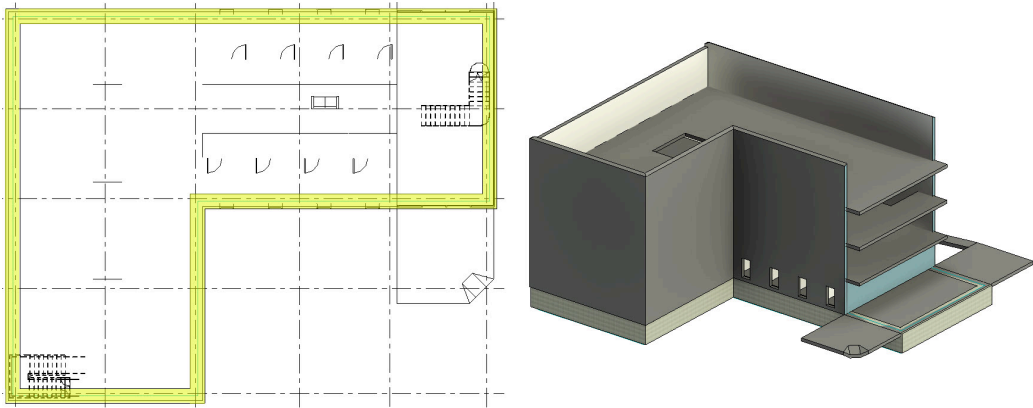

Figure 16.4 Foundation walls highlighted, shown in Level 1 floor plan view (left) and 3D view (right)
14. Do this for each exterior lines as shown highlighted in yellow in Figure 16.4 – Use any other tools necessary to complete this task